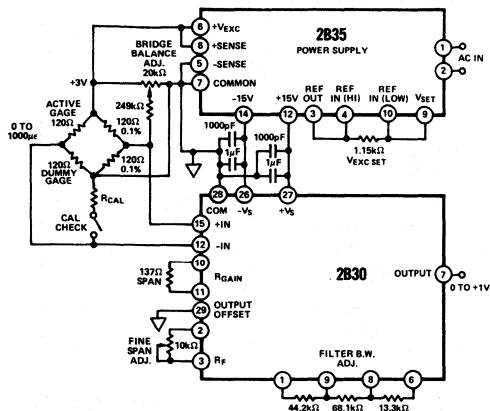

Figure 5. Interfacing Half-Bridge Strain Gage Circuit
**Strain Measurement:** The 2B30 is shown in Figure 5 in a strain measurement system. A single active gage (120Ω, GF = 2) is used in a bridge configuration to detect small changes in gage resistance caused by strain. The temperature compensation is provided by an equivalent dummy gage and two high precision 120Ω resistors complete the bridge. The 2B35 adjustable power supply is set to a low +3V excitation voltage to avoid the self-heating error effects of the gage and bridge elements. System calibration produces a 1V output for an input of 1000 microstrains. The filter cutoff frequency is set at 100Hz.